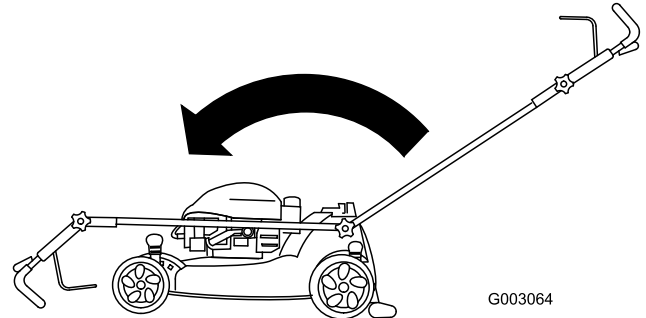

Figure 45
3. Move the handle forward (Figure 45).